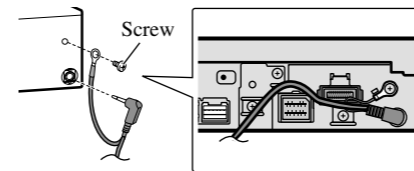

Fig. 6
1. Connect the optical cable and ground lead to the main unit. (Fig. 6)